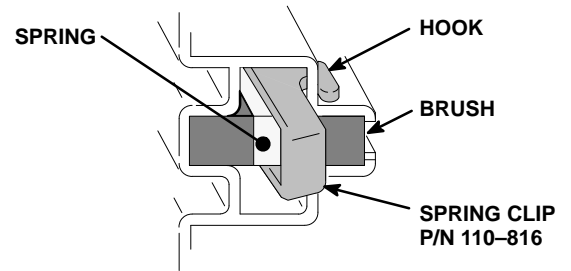

Fig 25-2
3. Push in the spring clip to release its hooks from the brush holder. Pull out the spring clip. See Fig 25-2.